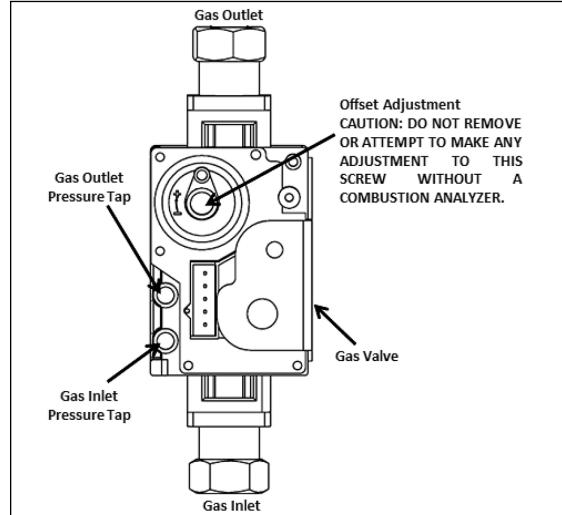

Figure 49 - Gas Valve Detail
**NOTE:** Refer Figure 49 when checking gas pressure. Loosen the bolts before checking the gas inlet pressure.
If the readings obtained are lower or higher than the combustion readings in Table 25, use a 4mm Allen key to adjust the offset screw in a clockwise (positive) or counterclockwise (negative) direction (approximately 1/4 turn). See Figure 49. Check your combustion values. Repeat this procedure until the values obtained on the calibrated combustion analyzer agree with those stated in Table 25.